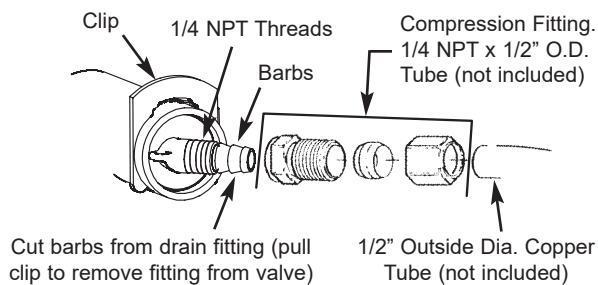

FIG. 4
- If installing a single bypass valve, push the bypass valve, with lubricated o-ring seals in place, into the valve inlet and outlet ports (See Figures 4 & 5).
- If installing a 3-valve bypass system, slide plastic installation adaptors, with lubricated o-ring seals in place, into the valve inlet and outlet ports (See Figure 4 & 5).
The house cold water pipe (metal only) is often used as a ground for the house electrical system. The 3-valve bypass type of installation, shown in Figure 4, will maintain ground continuity. If you use the plastic bypass, continuity is broken. To restore the ground, do the following:
- a. Take a length of 1/2" inside diameter hose and attach to the valve drain fitting, securing it with a hose clamp (See Figure 4 on page 7).
- b. Locate the other end of the hose at a suitable drain point (floor drain, sump, laundry tub, etc.). Check and comply with local codes. Refer to Figure 4 on page 7 if codes require a rigid pipe drain run.